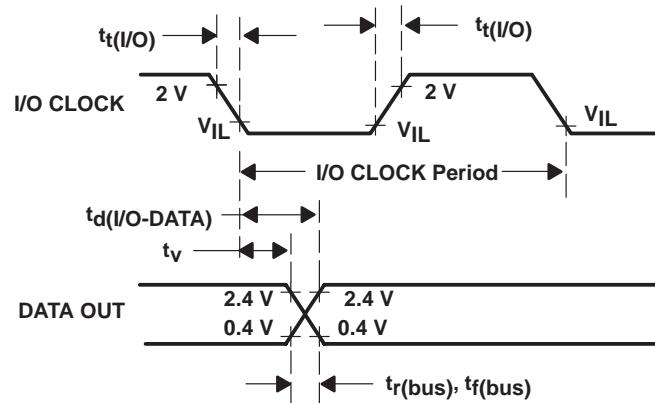

Figure 6. DATA OUT and I/O CLOCK Voltage Waveforms
10. I/O CLOCK period = $1/(I/O \text{ CLOCK frequency})$ (see Figure 6).